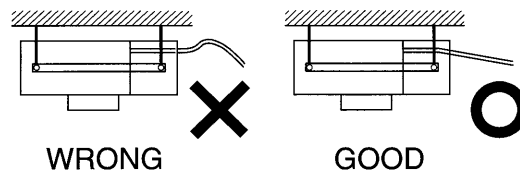

**Fig. 10**
- Check the pipe connector for gas leaks, then insulate it as shown in Fig. 10.